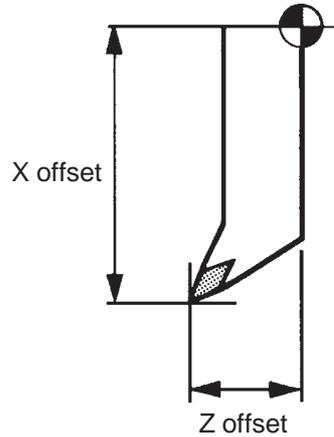

Figure 28 - Calibration step 2
Step 2 - Estimate the tool length of these reference tools (see figure 28)